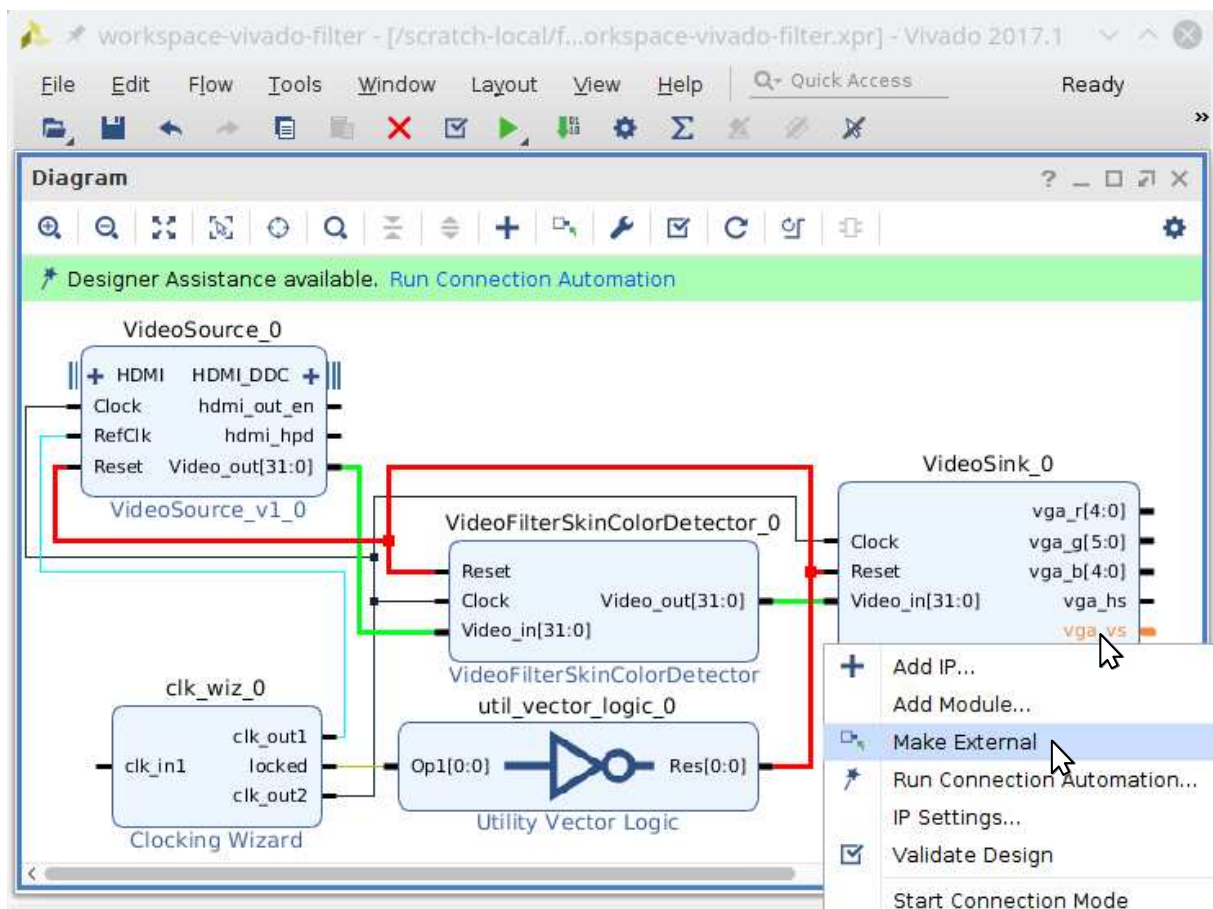

Figure 44: Make the inputs and outputs of the block design external
- r) After connecting these ports, the block design will look as shown in Figure 44. Subsequently, the remaining input and output ports have to be *made external* as these ports represent the interface to the Zybo board. Right click on the remaining input and output